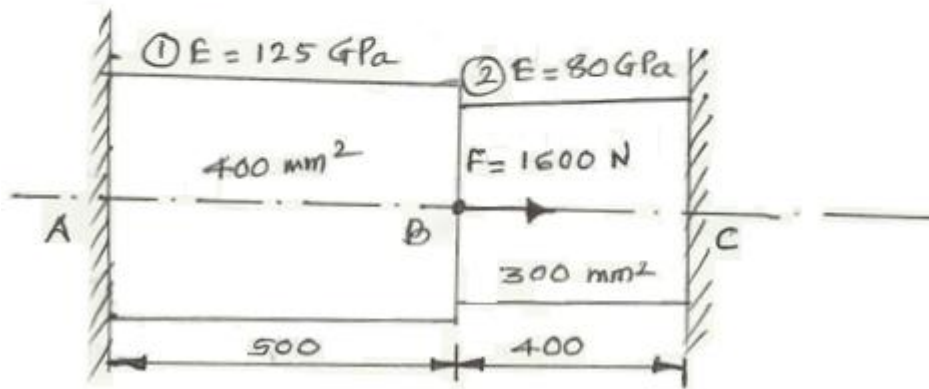

Fig. 2
- B For the compound section shown in fig. 2 fixed at both ends, estimate reactions at both ends and stresses when force of 1600 N is applied at the 10